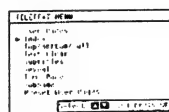

Fig. 46.
- 2 Using Δ or ∇ -, select the teletext function you want and press OK. (See Fig. 46)